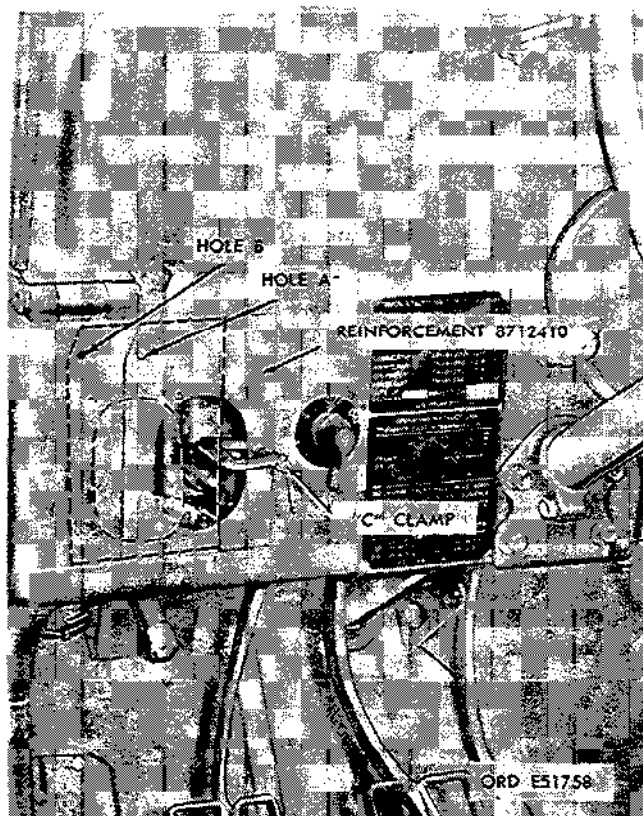
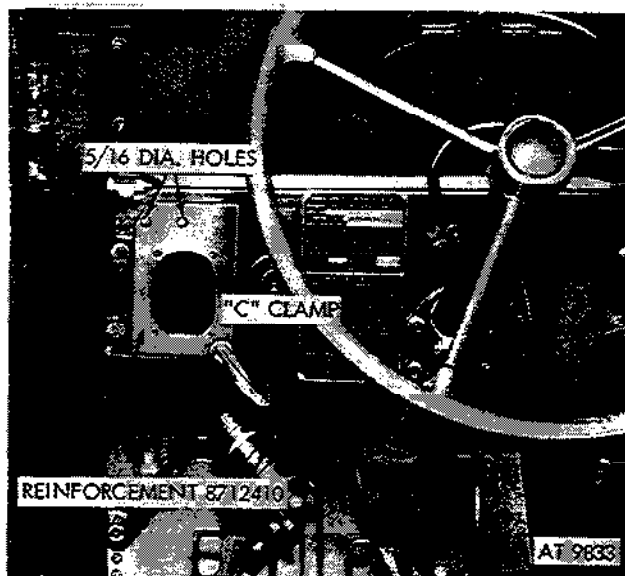

Figure 3-36. Reinforcement plate, left dash panel (softtop vehicle).
Figure 3-37. Reinforcement plate, left dash panel (hardtop vehicle).
(1) Position dash panel reinforcement plate (1), on the front of the dash panel with four holes in reinforcement plate centered over the light switch mounting holes in the dash panel.
(2) Secure reinforcement plate in this position with a C-clamp as indicated in figure 3-36 for soft top vehicle or figure 3-37 for hardtop vehicle.
(1) Use the upper left hole "A" indicated in figure 3-36. Move the reinforcement plate to the left as shown by the dotted lines for the location of hole "B".
(2) Drill a 5 / 16 inch diameter hole in the dash panel. These two holes will be used for mounting the catch assembly bracket and catch assembly.
(3) Remove the C-clamp and reinforcement plate.
(1) Using the upper holes in the reinforcement plate as a guide, indicated in figure 3-37, drill two